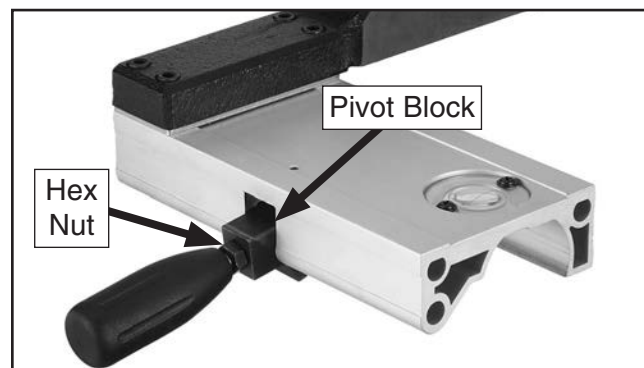

Figure 26. Example of handle installed on fence assembly.
3. Install an M8-1.25 hex nut on the fence handle, then thread the handle into the fence assembly, as shown in **Figure 26**. Tighten the hex nut against the fence pivot block to secure the handle.